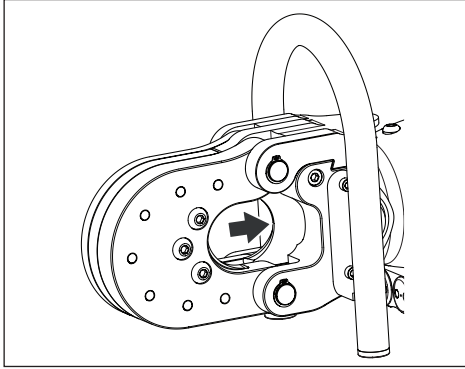

Figure 8, Piston and Blade in Home Position (fully retracted)
Always be sure that the piston and moving blade are in the fully retracted “home” position before placing any material inside the cutting head. See Figure 8.
1. Be sure that the piston is in the “home” (fully retracted) position. See Figure 8.